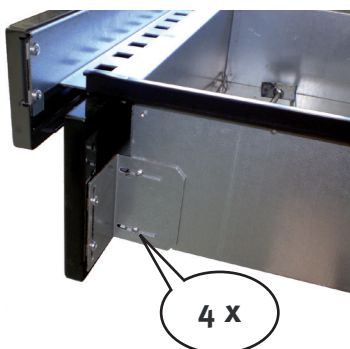

Figure 9
- ⇒ Pull out the fuel drawer, loosen the mounting screws of the panel (Figure 9), adjust to the required base recess position and retighten screws.